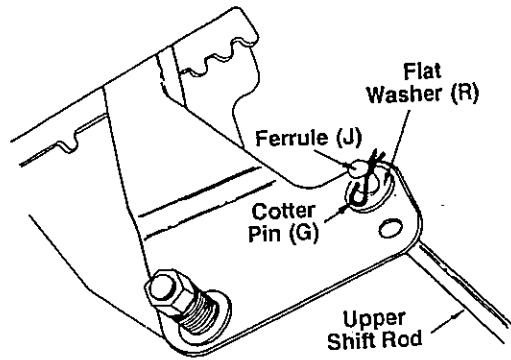

FIGURE 12
- Place the shift lever in the fastest forward position. Push the shift rod down sharply, as far as it will go, to put the drive into the fastest forward position. Thread the ferrule in or out on the shift rod as necessary until the ferrule lines up with the upper hole in the shift lever. Insert ferrule from the left side of the snowthrower into upper hole in shift lever and secure with flat washer (R) and internal cotter pin (G). See figure 12.